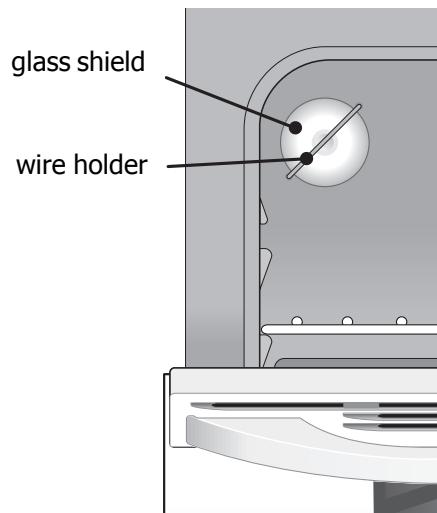

Fig.1
- Open oven door for access to interior oven light. Once located, press wire holder to one side to release the glass shield (See Fig.1).